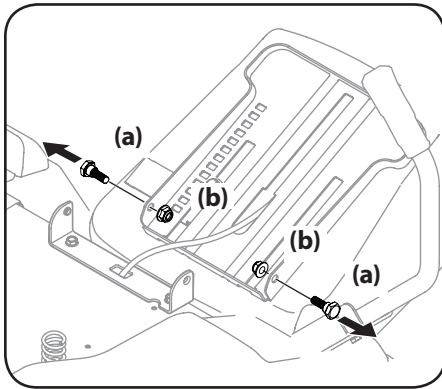

Figure 2-4
2. Remove the two shoulder screws (a) and lock nuts (b) in the seat pan as shown in Figure 2-4.